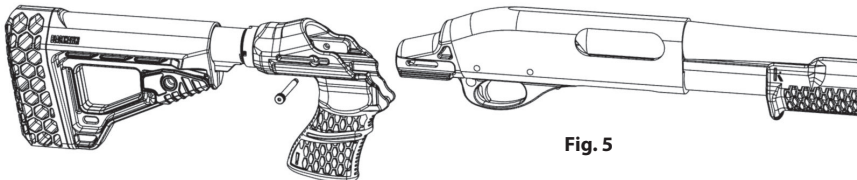

Fig. 5
5. Insert the top slide with shotgun attached into the corresponding slot rails located in the stock assembly. Insert completely until top slide stops flush against the rear recoil spring (*Fig. 5*).